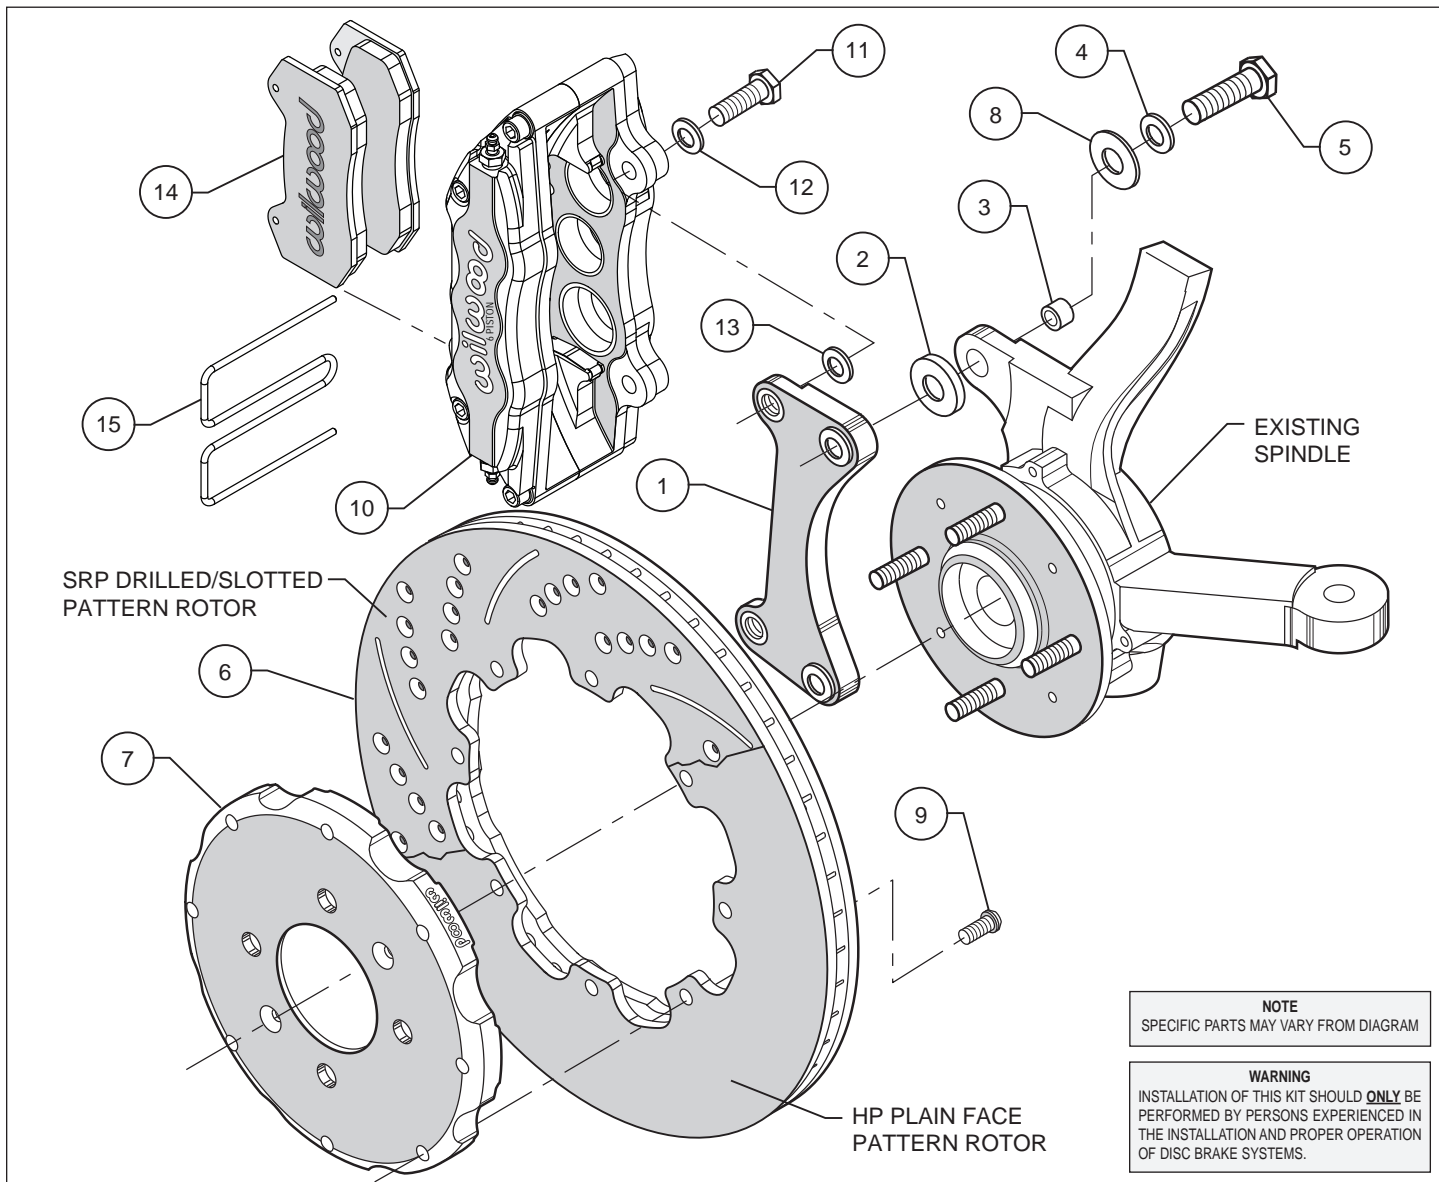

Figure 1. Typical Installation Configuration, Left Hand Application Shown
- Insert one sleeve (3) each into the holes on the top and bottom of the spindle “ears” where the OEM caliper bracket was removed. Apply red *Loctite*® 271 to the mounting bolt threads (5) before installation of the caliper mounting bracket (1). Install the bracket with the flanged heads of the clinch nuts facing outboard, as shown in Figure 1. Slide bolt (5) through washer (4) and shim (8) into the previously installed sleeve (3) from the backside of the spindle. Position .125 thick spacer (2) between the spindle and the bracket. Torque bolts to 60 ft-lb.
- With the larger I.D. side of the rotor (6) facing away from the hat (7), attach rotor (6) to hat (7) using bolts (9) as shown in Figure 1. Using an alternating sequence, remove bolts one at a time, apply red *Loctite*® 271 to the threads, and torque to 25 ft-lb.